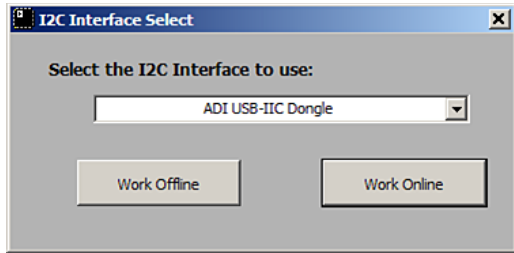

Figure 7. I2C Interface Select
3. Run the GUI ADM106x and ADM116x SuperSequencer evaluation software, and select the appropriate I2C interface, then click **Work Online** as shown in Figure 7.